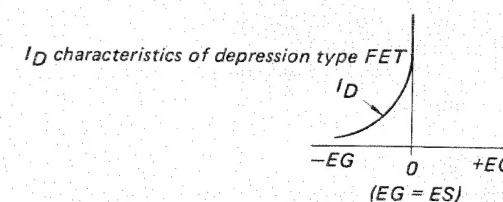

Fig. 13
- Q403 is a 2SK42 N-channel depression type FET. As shown in Fig. 13, EG = ES when gate and source are connected, resulting in the flow of a constant current of less than 5mA. In other words, Q403 serves as the load resistance for Q402.